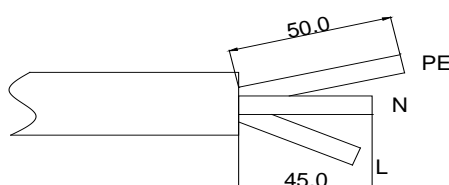

FIG. 7-3 Adjust the Cable Length
The grid connection is established by using three-core wire (L, N, and PE, as per FIG. 7-3).
- 1) Strip the cable's jacket, and then adjust the relative length of L, N and PE cables, to make the length of PE cable is at least 5mm longer than L and N ones, as per FIG. 7-3.